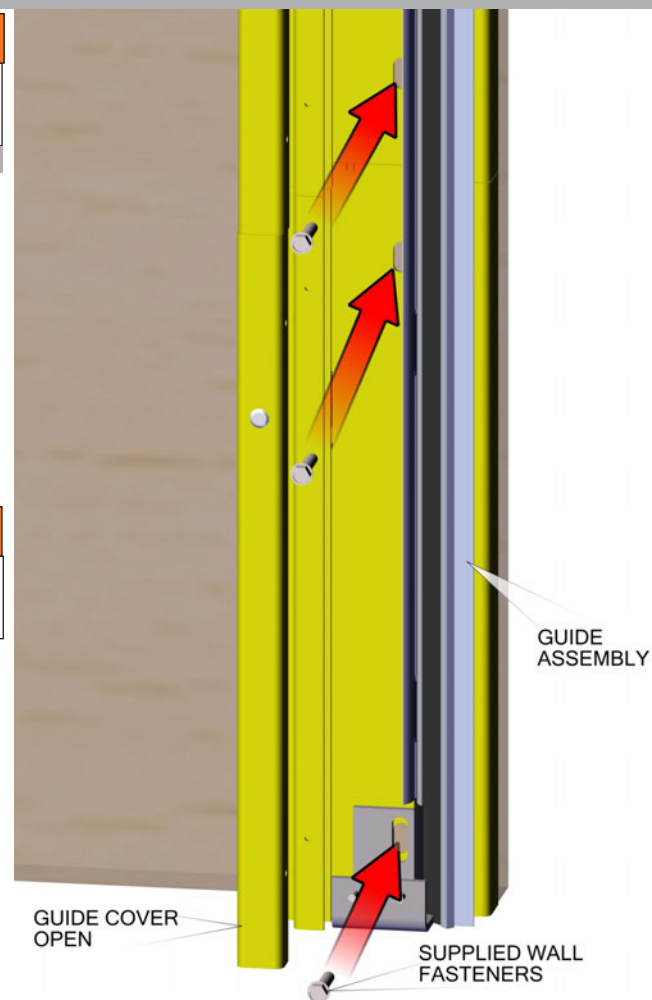

Figure 3
- Open hinged guides and mount to the wall surface using supplied fasteners. See Figure 3.